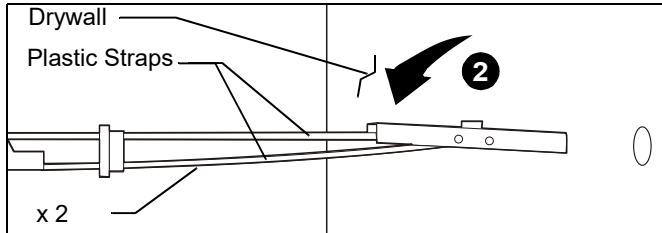

Figure 12
2. Hold metal channel on Toggler® 1/4-20 Snap-Toggle (not included) flat alongside plastic straps and slide channel through hole. (See Figure 12)